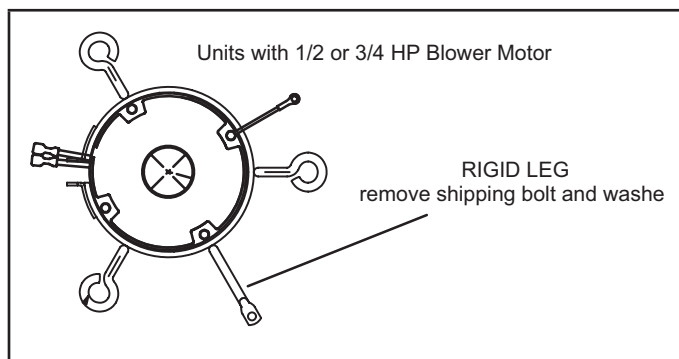

FIGURE 6
**NOTE** - Units with 1/2 or 3/4 hp blower motors are equipped with three flexible legs and one rigid leg. See FIGURE 6. The rigid leg is equipped with a shipping bolt and a flat white plastic washer (rather than the rubber mounting grommet used with a flexible mounting leg). **The bolt and washer must be removed before the furnace is placed into operation.** After the bolt and washer have been removed, the rigid leg will not touch the blower housing.